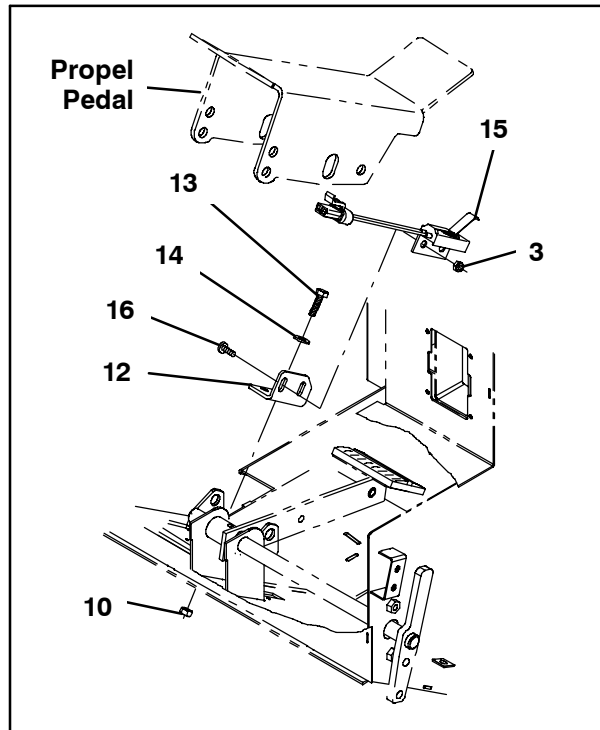

**FIG. 6**
11. Route the back light (2) cable through the hole in the rear engine cover and use two pan screws (4), two washers (5), and two hex nuts (3) to install the light onto the cover. Refer to Fig. 6 and Fig. 7.